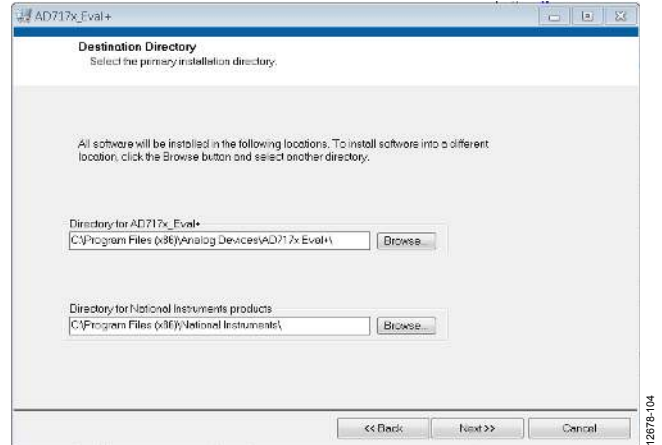

Figure 4. AD717x Eval+ Installation Selecting the Location for Software Installation
4. Select a location to install the software and click **Next**. Figure 4 shows the default locations displayed when the dialogue box opens. To select another location click **Browse**.